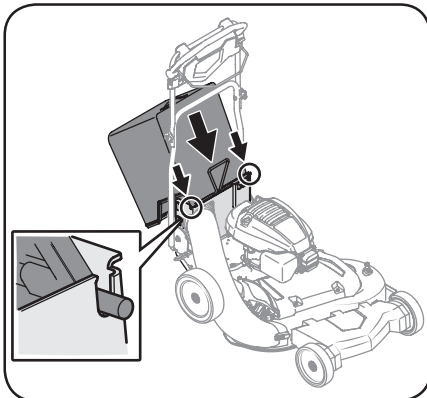

Figure 2-7
- c. Place the grass catcher into the slots on the rear discharge support bracket. See Figure 2-7 inset.